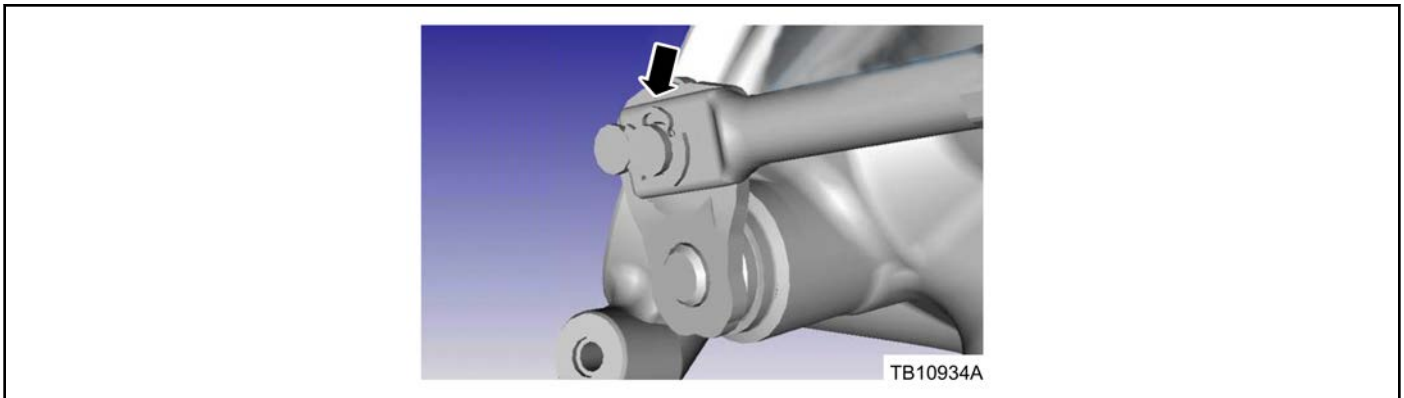

Figure 1 - Article 16-0123
2. Using a long screwdriver, attempt to move the turbocharger wastegate actuator rod to verify proper attachment. Is the turbocharger wastegate actuator rod properly attached and the retaining clip in place? (Figure 1)
10. Reconnect the turbocharger wastegate actuator rod and install a new retaining clip. (Figure 1)